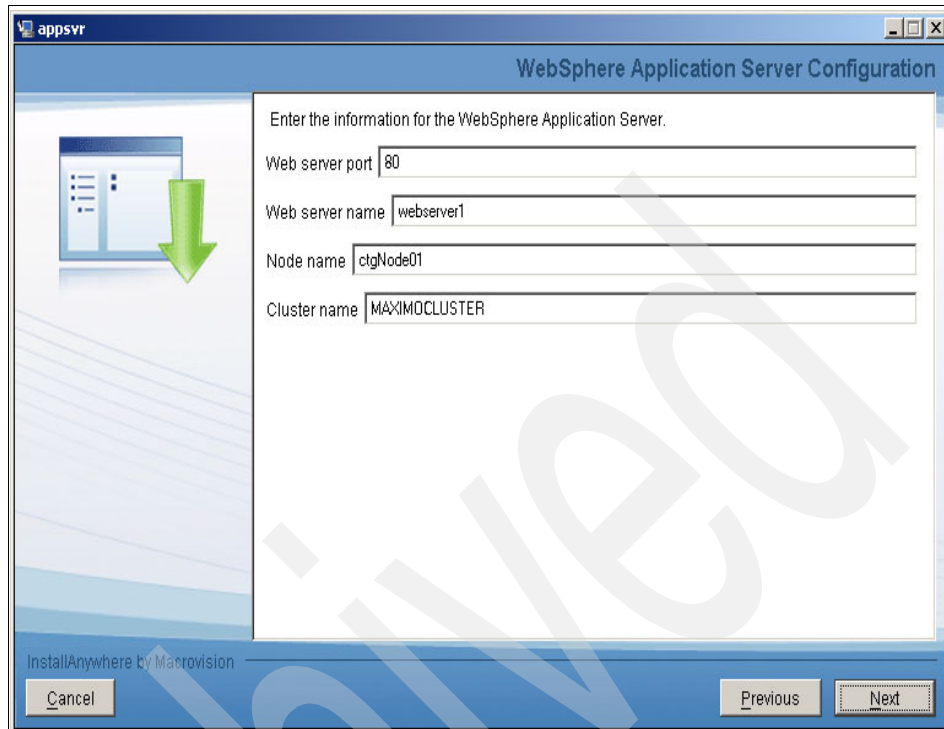

Figure 5-18 WebSphere Application Server Configuration
13. From the WebSphere Application Server Configuration panel (see Figure 5-18 on page 91), enter the following information, and then click **Next**.